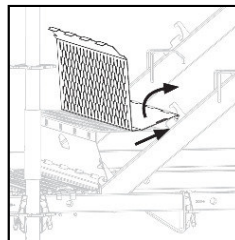

Fig.A2-7b
Position the second step (7) with the front side on the first step. Push the step forwards into the support of the Stair Stringers UA (6). The upturned edges engage in the slits. (Fig. A2.7b)